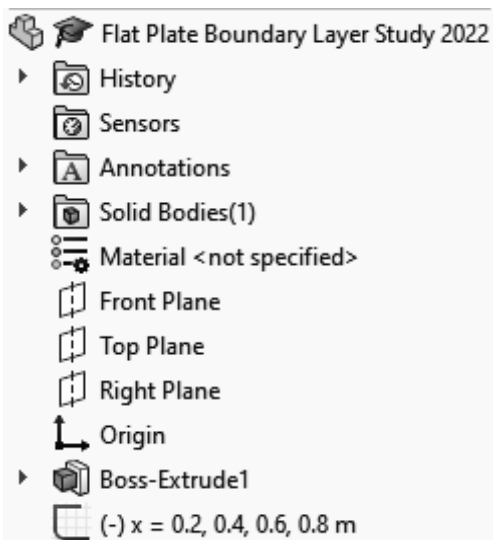

Figure 2.8 Renaming the sketch for boundary layer velocity profiles
8. Repeat steps 6 and 7 three more times and add three more vertical lines to the sketch, the second line at $X = 400$ mm with a length of 40 mm, the third line at $X = 600$ mm with a length of 60 mm and the fourth line at $X = 800$ mm with a length of 80 mm. These lines will be used to plot the boundary layer velocity profiles at different streamwise positions along the flat plate. Close the **Line Properties** dialog and the **Insert Line** dialog. Save the SOLIDWORKS part with the following name: **Flat Plate Boundary Layer Study 2022**. Rename the newly created sketch in the **FeatureManager design tree**, see figure 2.8. You will need to left click twice to rename the sketch.